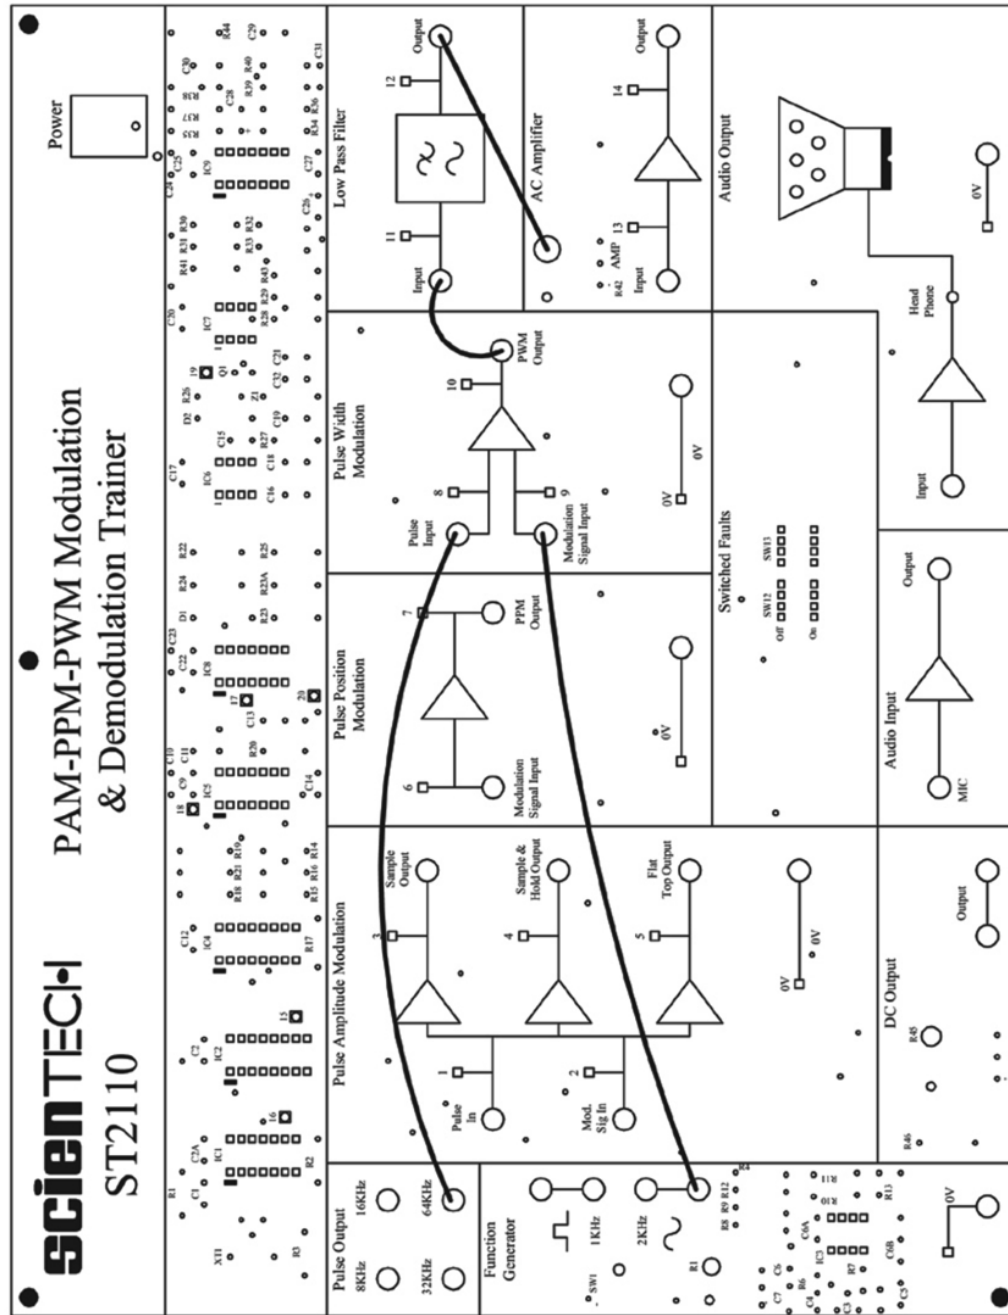

Figure 2
1. Connect the circuit as shown in Figure 2 and also described below for clarity.